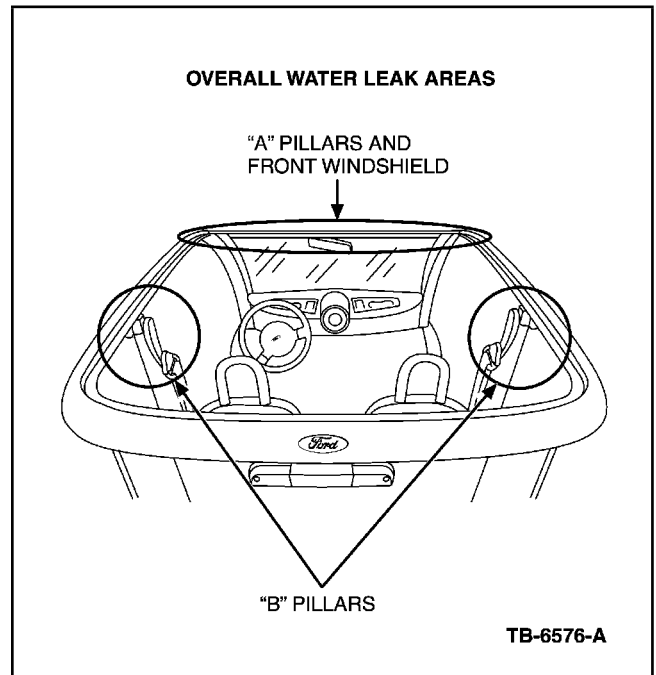

Figure 1 - Article 02-6-4
2. Perform a water test starting on the roof and mark all areas where leaks occur. See Figure 1 showing specific areas to check for leakage.